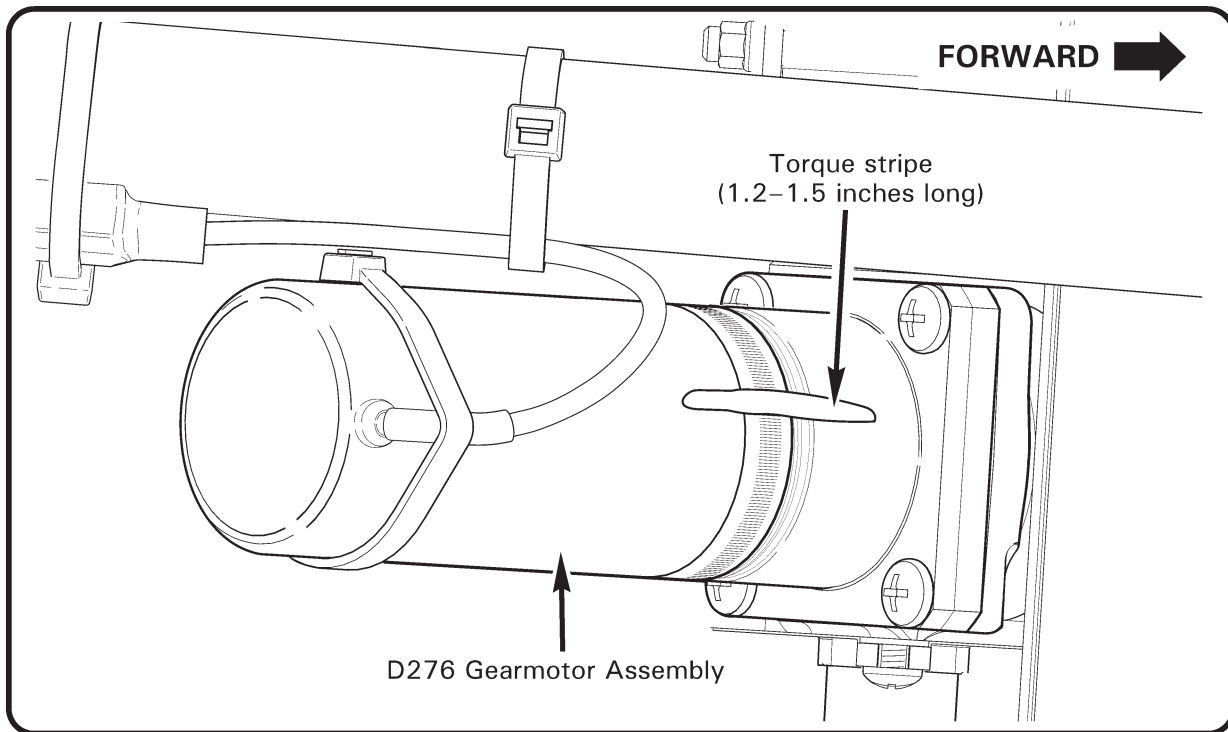

FIGURE 2-6A GEARMOTOR ASSEMBLY TORQUE STRIPE
**Gearmotor Assembly Torque Stripe:** Refer to Figure 2-6A. Verify torque stripe is not broken or missing. Renew deteriorated torque stripe as required.
**7. Open Cowling Doors (7A), Remove Tailcone Cowling (7B) & Mast Fairing (9) (cont'd)**